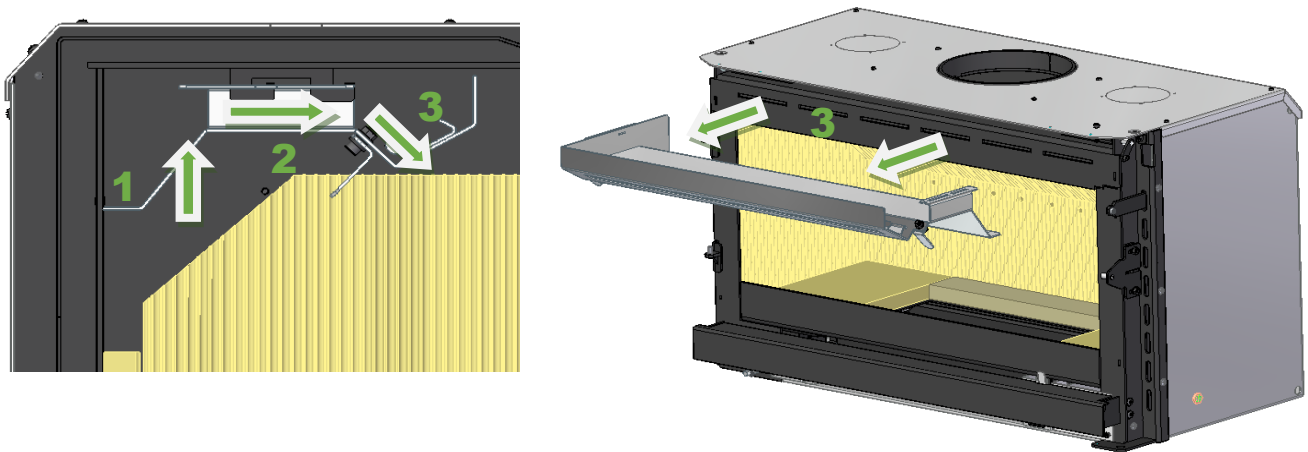
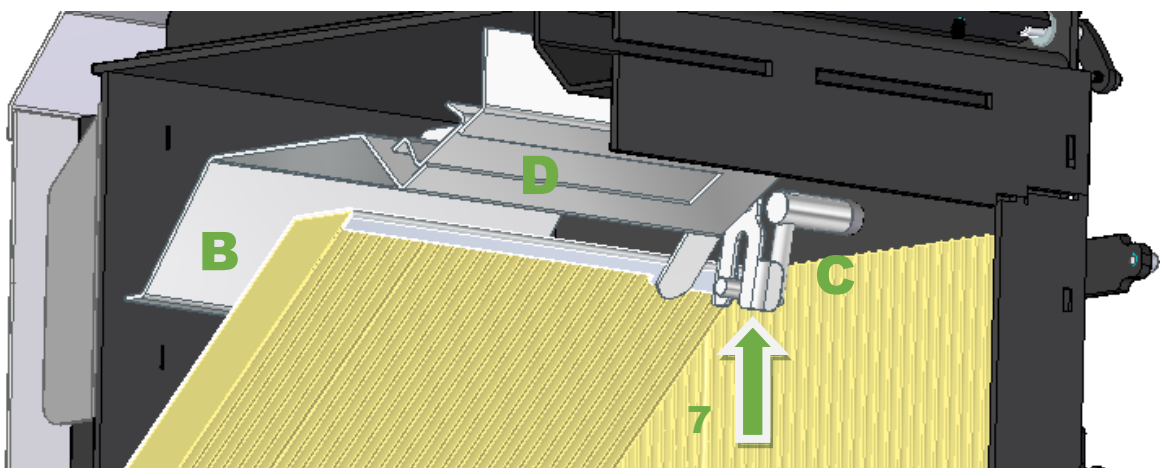

Figure 36 – Removing the smoke circuit
Figure 37 – Fitting of the smoke circuit system
1. Open the door and remove the smoke deflector (A). To do this, place your hands on the baffle and move the baffle upwards, or turn the support tabs to the side, then move the bottom of the baffle towards you and remove the baffle, see Figure 36 and Figure 37.
2. Remove the smoke channel (B) by pushing it towards the top of the stove (1). Then move the smoke channel forward (2), it is loose and remove it by moving it downwards (3), Figure 36.
3. To reinstall the smoke circuit, repeat all the procedures in reverse order. Note that the damper shaft (C) is placed in the groove in the smoke channel (B). To check that the smoke channel is installed correctly, pull the damper and check that the damper flap (D) moves, see Figure 37.